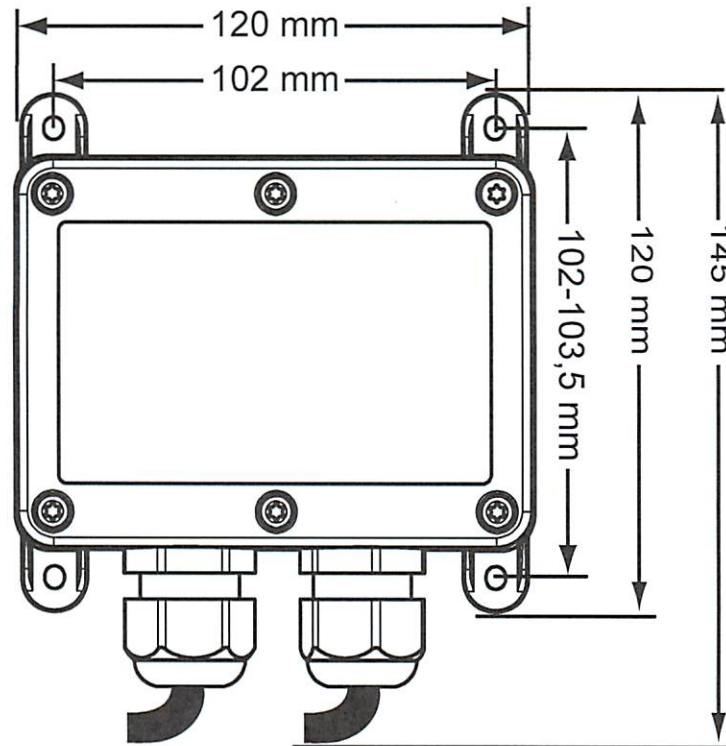

Figure 11. Use 4 mm screws to mount the receiver.
2. Carefully remove the cover by lifting up the front end of the cover (see fig. 11).